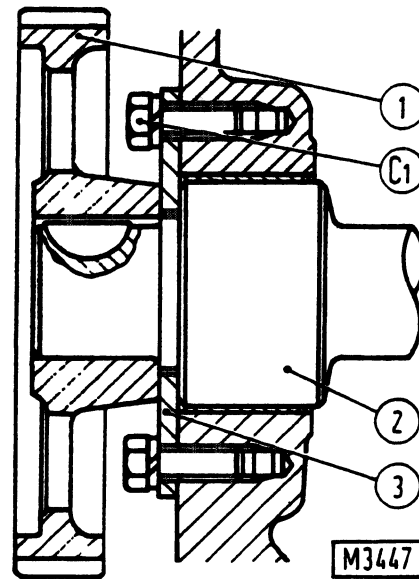
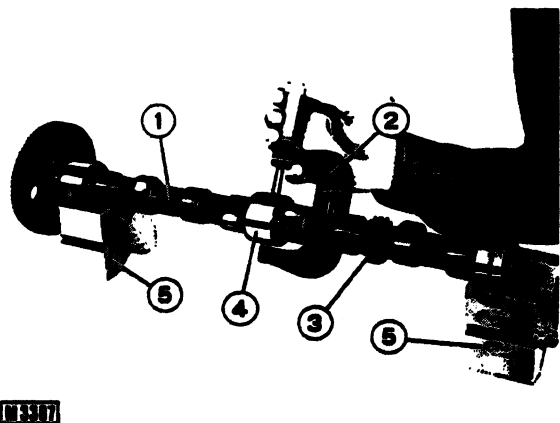

Fig. 18 - Section of camshaft drive.
Fig. 17 - Checking camshaft journal diameter.
- for camshaft drive gear (Fig. 18) use universal puller yoke. To install, heat gear ( $180^{\circ}\text{C} - 356^{\circ}\text{F}$ ) and press it into camshaft after installing the key.
The camshaft (1, Fig. 17) is held in place at the front by a thrust collar (3, Fig. 18) where a gear (1), not pressed and keyed, drives it.
- remove timing gear cover, remove screws (C1, Fig. 18) securing the thrust plate to the timing housing and withdraw camshaft with gear.